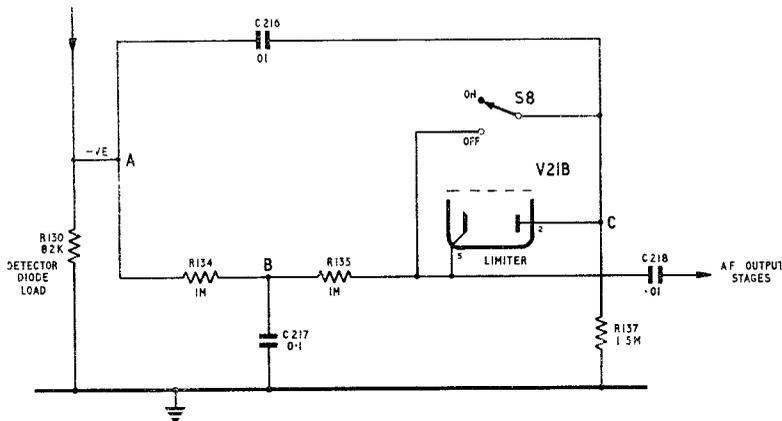

Fig. 7 Noise limiter diode circuit
32. The noise limiter diode (V21B) is connected in a series circuit to operate at approximately 30% modulation. Its operation is explained as follows with reference to fig. 7.